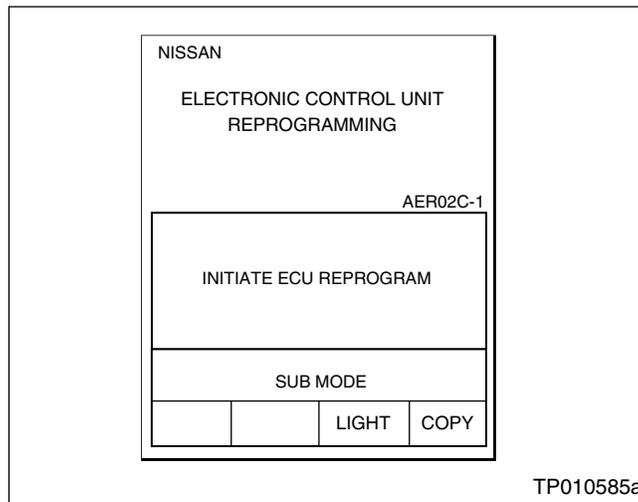

Figure C5
9. **Make Sure the DLC-II cable is firmly plugged into the vehicle harness** (see **CAUTION** below step 8). Turn the ignition switch "ON", but do not start the engine. CONSULT-II will turn on automatically (see Figure C5).